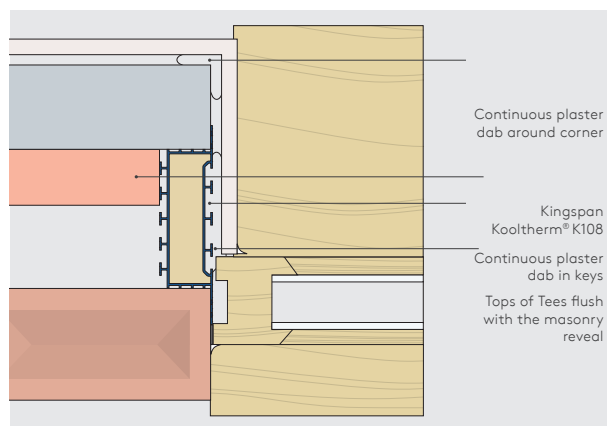

Figure 26: Plaster Dabs at Jamb Detail
- Plaster, screed and dabs for dry-lining should be applied directly to the tees on the Kingspan Thermabate® casing, as the tees form the key. The tops of tees should be flush with the masonry reveal (Figure 26).